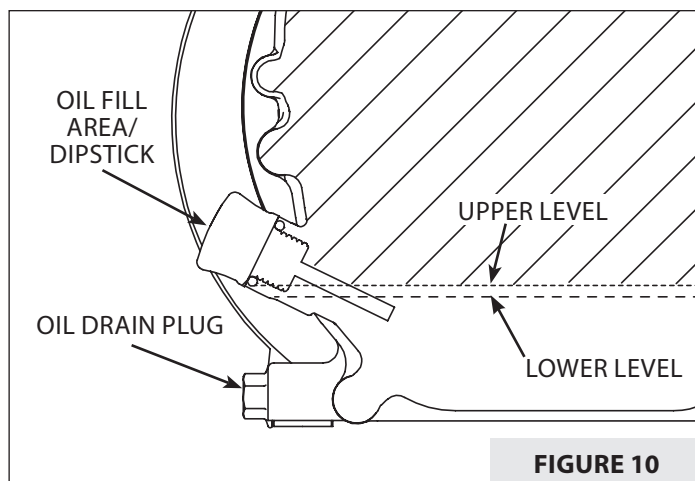

FIGURE 10
2. Remove oil drain plug and empty oil into suitable oil container. Dispose of oil properly. **SEE FIGURE 10.**
3. Reinstall drain plug. Remove dipstick (if applicable) or oil fill cap. **SEE FIGURE 10.**
4. Fill with appropriate oil to **FULL** or top line of dipstick; otherwise to top thread of oil fill hole. **SEE FIGURE 10.**